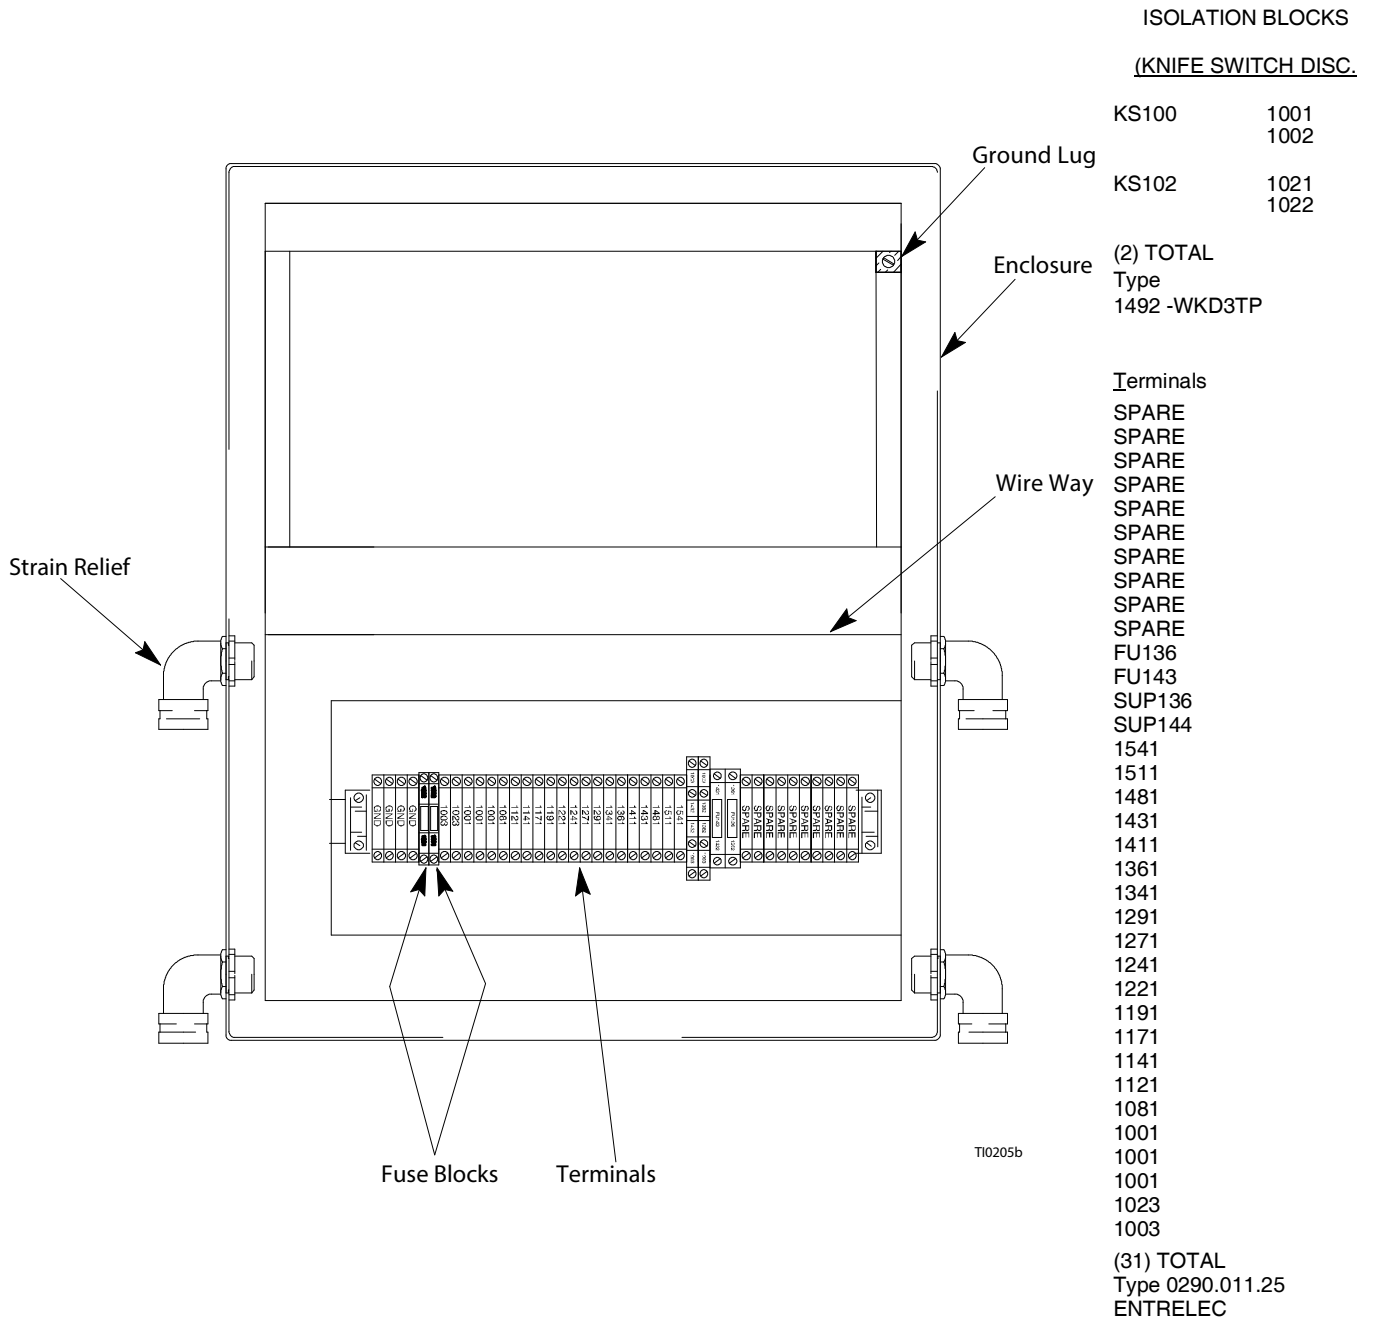

Fig. 8
2. Remove the cover from the Junction Box Panel (H).
3. Locate the PLC power terminals KS102 and KS100 on the terminal strip inside the Junction Box Panel (H). See FIG. 8. For more information, refer to **Electrical Diagram** on page 91.
4. Using the upper wire duct on the left-hand side of the Junction Box Panel (H), string two 14 AWG wires inside the box from the electrical power source.
5. Connect a ground wire to the ground lug shown in FIG. 8 on page 23.
6. Connect the two 14 AWG wires to power terminals KS102 (L1, hot) and KS100 (L2, neutral) in the Junction Box Panel (H).
7. Seal the area where wires entered the Junction Box Panel (H).
8. Replace the cover on the Junction Box Panel (H).